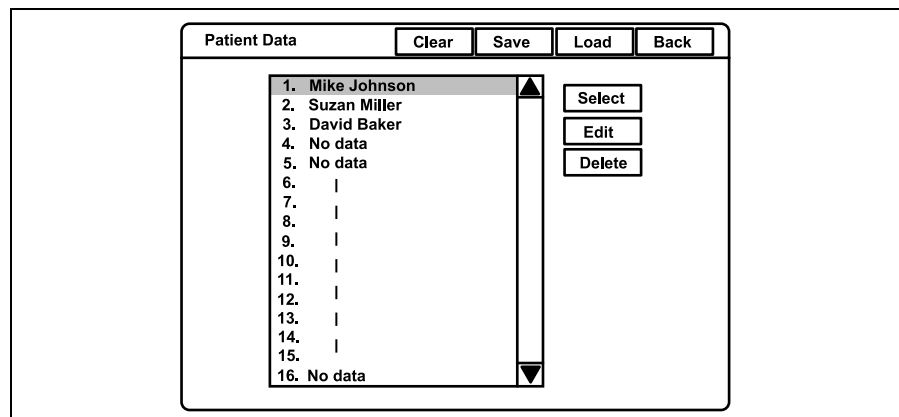

Figure 5.84
1. Press the "Shift" and "F3" keys together. The "Patient Data" menu appears on the monitor (see Figure 5.84).